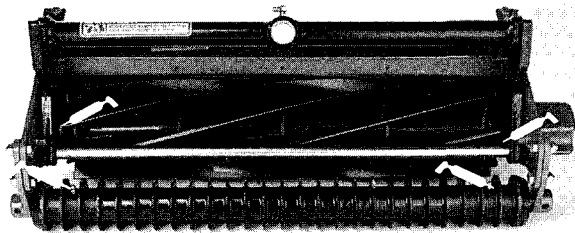

Figure 8
There are six (6) grease fittings on each cutting unit (Fig. 8, 9), which must be lubricated using a No. 2 multi-purpose lithium base grease. A hand operated grease gun is recommended for best results.